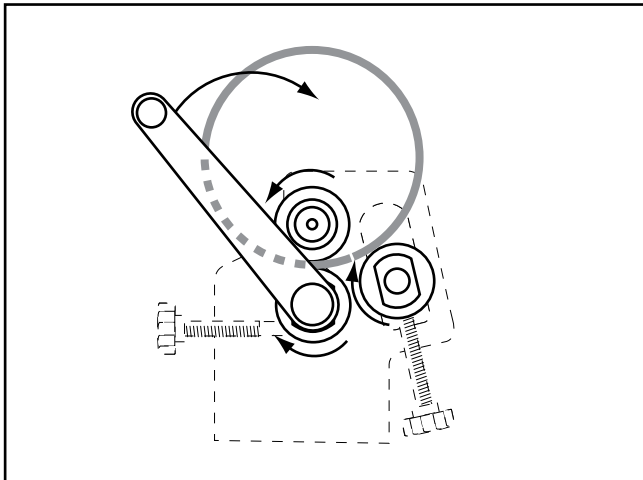

Figure 24. Finishing the cylinder.
6. Continue to process the workpiece until the cylinder is formed, as shown in **Figure 24**.